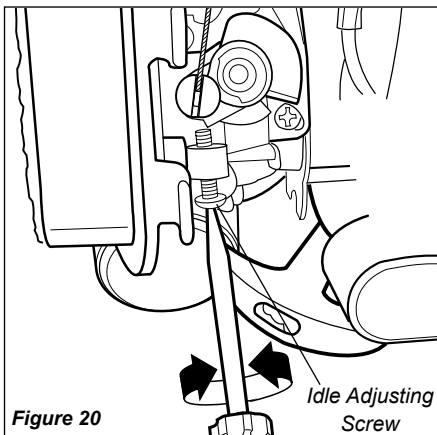

Figure 20
2. If the attachment moves when the engine is at idle, reduce the idle speed by turning the idle adjustment screw counter-clockwise. See Figure 20.